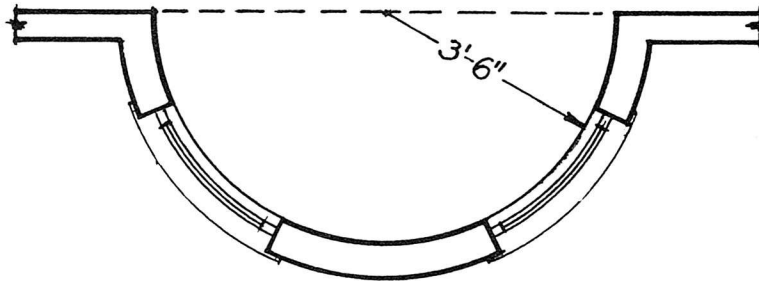

Fig. 1
2. Figure the surface to be floored in a semi-circular bay window, as shown in Figure 1, if the radius is 3'-6".